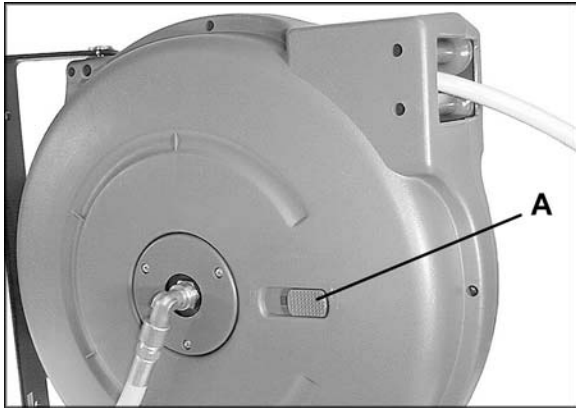
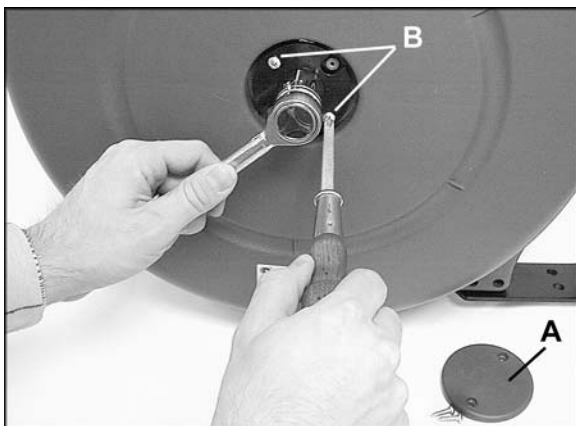

Figure 2
Figure 3
2. To lock the reel: Pull out the hose and allow it to retract after hearing the first, second, or third "click". Then move the slipping block (A-Fig. 2) to the lock position as shown.
3. To unlock the reel: Move the slipping block (A-Fig. 2) to the unlock position. Slowly pull out the hose until the "clicking" noise stops, and then let the hose retract until the hose stop rests against the hose guide.
2. Remove the cover (A, Figure 3) and loosen the two screws (B, Figure 3) on the spring adjustable bushing, while holding the bushing secure with a socket wrench as shown. With the screws removed, rotate the spring adjustable bushing clockwise to increase spring tension, counterclockwise to decrease spring tension.
3. Re-tighten screws (B, Figure 3) and replace cover (A, Figure 2)